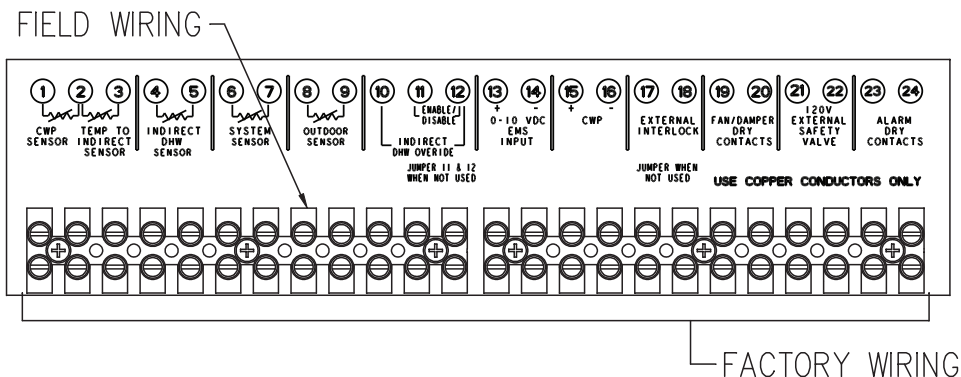

Fig. 24: Low Voltage Field Wiring
Connect the Enable/Disable wiring to the field wiring terminals (shown in Fig. 24). Alternately, any dry contact closure (including a remote thermostat) across these terminals will enable the MVB unit to run. Caution should be used to ensure neither of the terminals becomes connected to ground.
2. If using an Outdoor Sensor (option B-32), connect the sensor wires to the terminals marked OUTDOOR SENSOR (see Fig. 24). Caution should be used to ensure neither of these terminals becomes connected to ground.
4. Connect an Energy Management system or other auxiliary control signal to the terminals marked 0-10V (+ /-) on the field wiring terminals (see Fig. 24). Caution should be used to ensure that the +0-10V connection does not create a short to ground.
3. Connect the system supply sensor to terminals 6 and 7 on the field wiring strip located on the Master PIM™ (See Fig. 24).
4. Connect the Outdoor sensor (if used) to terminals 8 and 9 on the field wiring strip located on the Master boiler (See Fig. 24).
- Connect the Enable/Disable wiring to terminals 11 and 12 on the field wiring strip located on the Master boiler (See Fig. 24). This connection must be provided through dry contacts closure.
An alarm annunciator or light may be connected to the alarm contacts on the field wiring terminal strip. The Alarm Contacts are 3A rated dry contacts on a normally-open relay that close during fault or lockout conditions, and the maximum voltage across the contacts is 30 VAC or 30 VDC. See the Field Wiring as shown in Fig. 24.